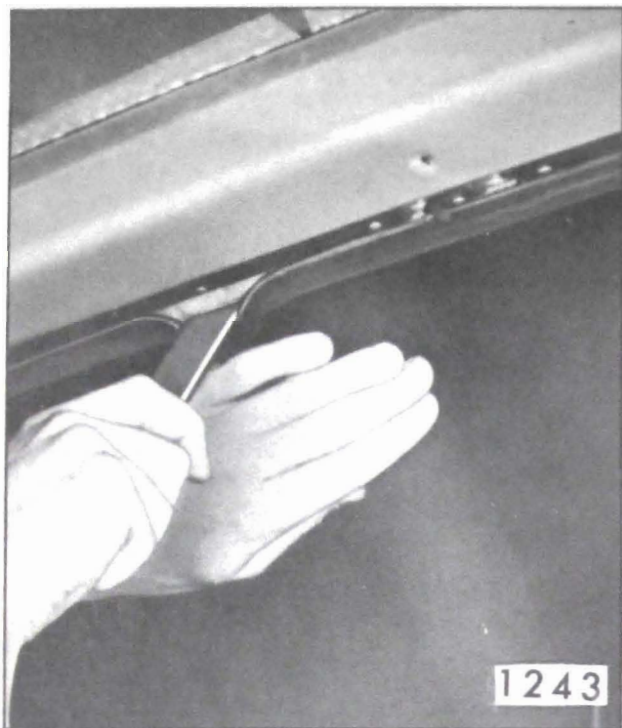

Fig. 4-10—Windshield Glass Removal
4. On inside of body loosen lip of rubber channel from pinchweld flange along top and sides of windshield as follows: With palm of hand, apply pressure to glass near edge (Fig. 4-10). At the same time use a blunt putty knife or other suitable tool and carefully assist rubber channel over pinchweld flange.